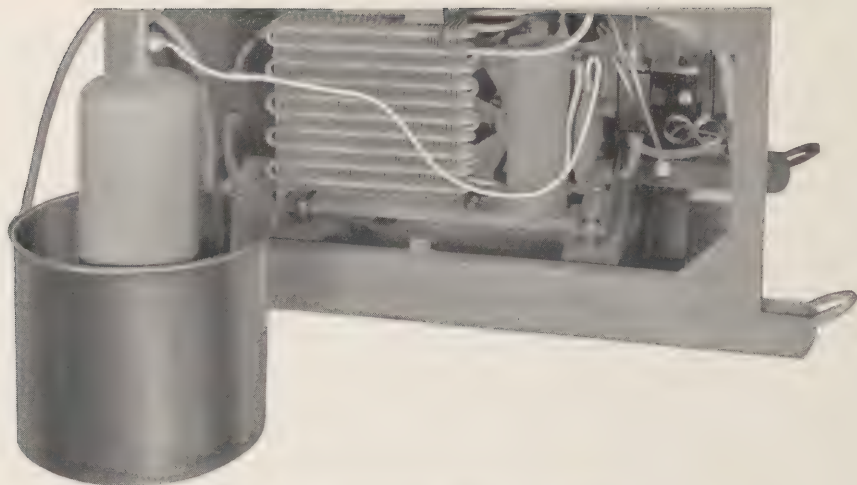

**Figure 20. Adding refrigerant to system.**
**a. Adding Refrigerant to the System.** Refrigerant lost by leaks or by the replacement of parts must be restored to the system to maintain proper refrigeration. To add refrigerant proceed as follows: (fig 20).